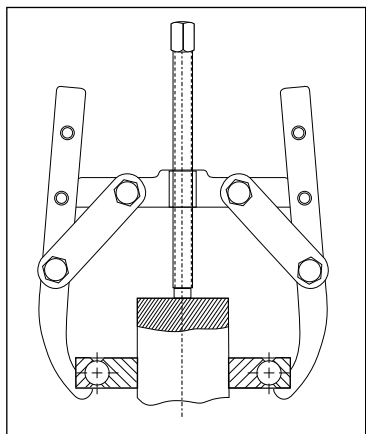

Fig. 2
4. Position the puller as shown in Fig 2.